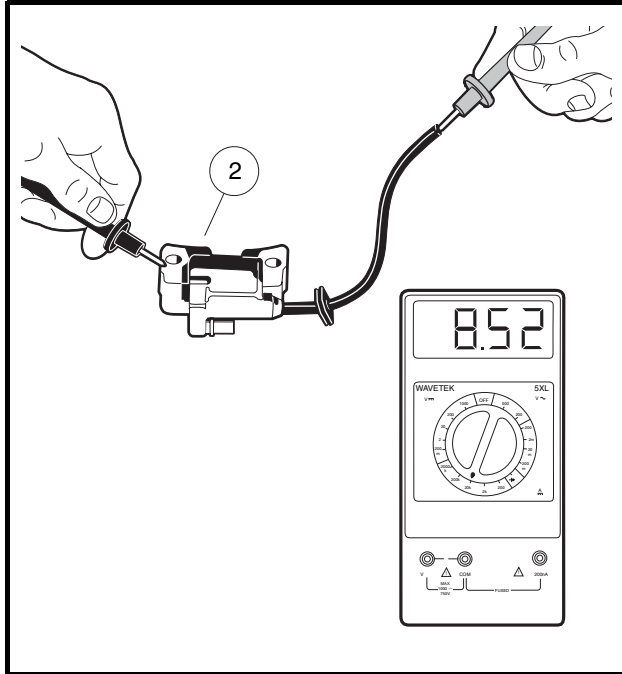

Figure 11-32 Secondary Coil Resistance – Bench Test
- 5.1. Using a multimeter set to 20k ohms, place the red (+) probe of the meter into the end of the spark plug wire and place the black (–) probe on the core (2) (**Figure 11-32, Page 11-28**). If the resistance is between 6.0k - 11.0k ohms, the secondary coil is within acceptable limits. If the resistance is not between 6.0k - 11.0k ohms, the ignition coil has failed and must be replaced.